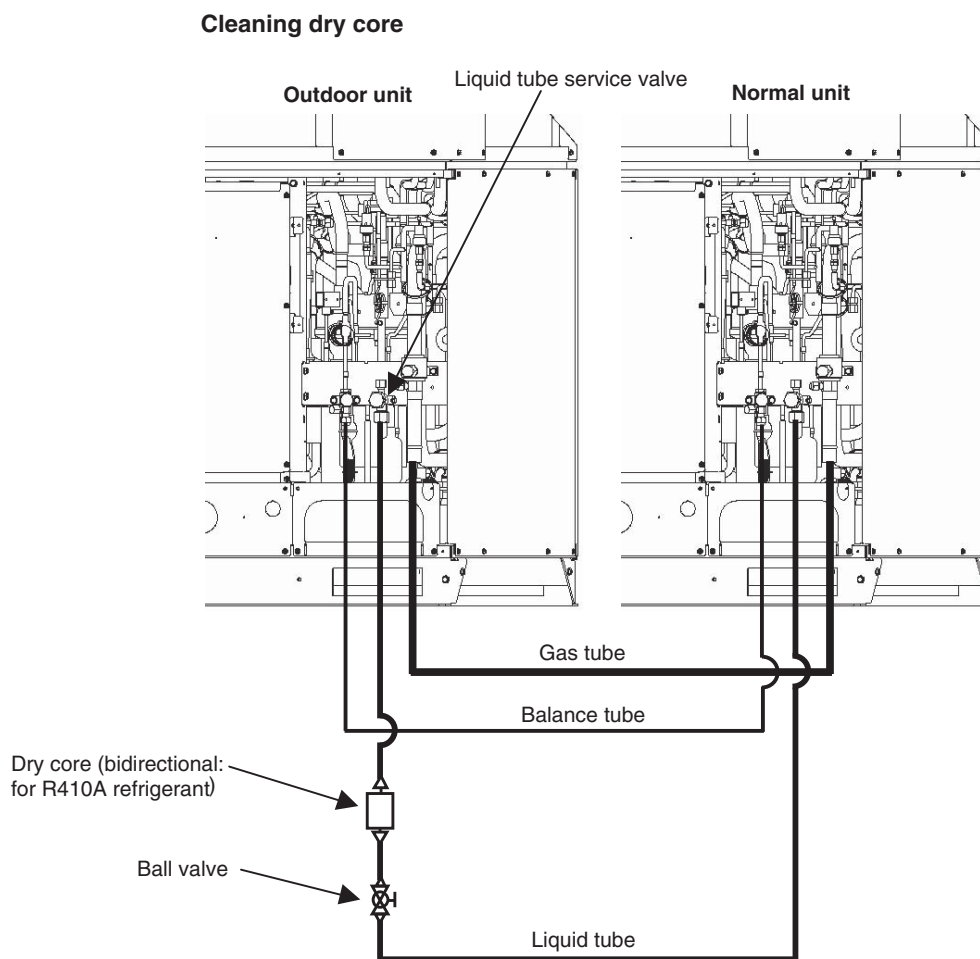

Fig. 21
- (5) As shown in Fig. 21, disconnect the tube that runs from the liquid tube valve to the ball valve on all outdoor units where dry cores will be attached. Then attach the dry cores.
- (6) At all outdoor units where dry cores are attached, pressurize with 478.6 psi of nitrogen from the liquid tube service port and check for leaks.
- (7) After evacuating all nitrogen gas from the tubing, apply vacuum from the liquid tube service port to all outdoor units where dry cores are attached until the pressure is -14.7 psig (5 Torr) or less.
- (8) Fully open the liquid tube valve and ball valve on all outdoor units where dry cores are attached.
- (9) Operate all outdoor units for approximately 3 hours (in either Heating or Cooling mode or mixed Cooling and Heating mode).
- (10) Follow the above procedure, and replace all dry cores with new dry cores.
- (11) Operate all outdoor units for approximately 20 minutes (in either Heating or Cooling mode or mixed Cooling and Heating mode).
- (12) Follow the instructions in "3. Discharging Compressor Oil" and drain a small amount of the oil from the oil separators of all outdoor units where dry cores are attached. Check the color phase, odor, and other characteristics.
- (13) If the results show that dry core cleaning is still necessary (for example, a color phase of 4.0 or higher)*, return to Step 11 and repeat until the results are normal (including a color phase of 3.5 or less)*.
- (1) Refer to “5-2-3. Refrigerant recovery procedures (2) : Indoor unit with no ball valve equipped.” Perform pump down of the refrigerant from all indoor units and inter-unit tubing to the outdoor unit side.
- (2) Cut the liquid (narrow) tube at all outdoor units where dry cores will be attached, then attach the dry cores and ball valves as shown in Fig. 21.
- (3) For the next steps, refer to (6) – (17) in (A) on the previous page.